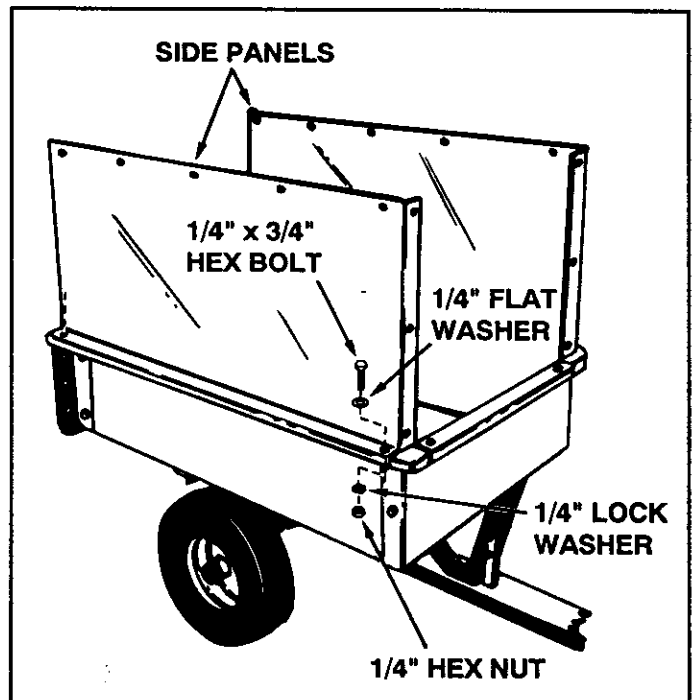

FIGURE 14
- Position a side panel on top of the cart bed flange and front corner cap. Align holes in side panel with holes in corner cap and holes in top of cart bed flange. Fasten together using two 1/4" x 3/4" hex bolts, two 1/4" flat washers, two 1/4" lock washers and two 1/4" hex nuts. Repeat for other side. See figure 14.